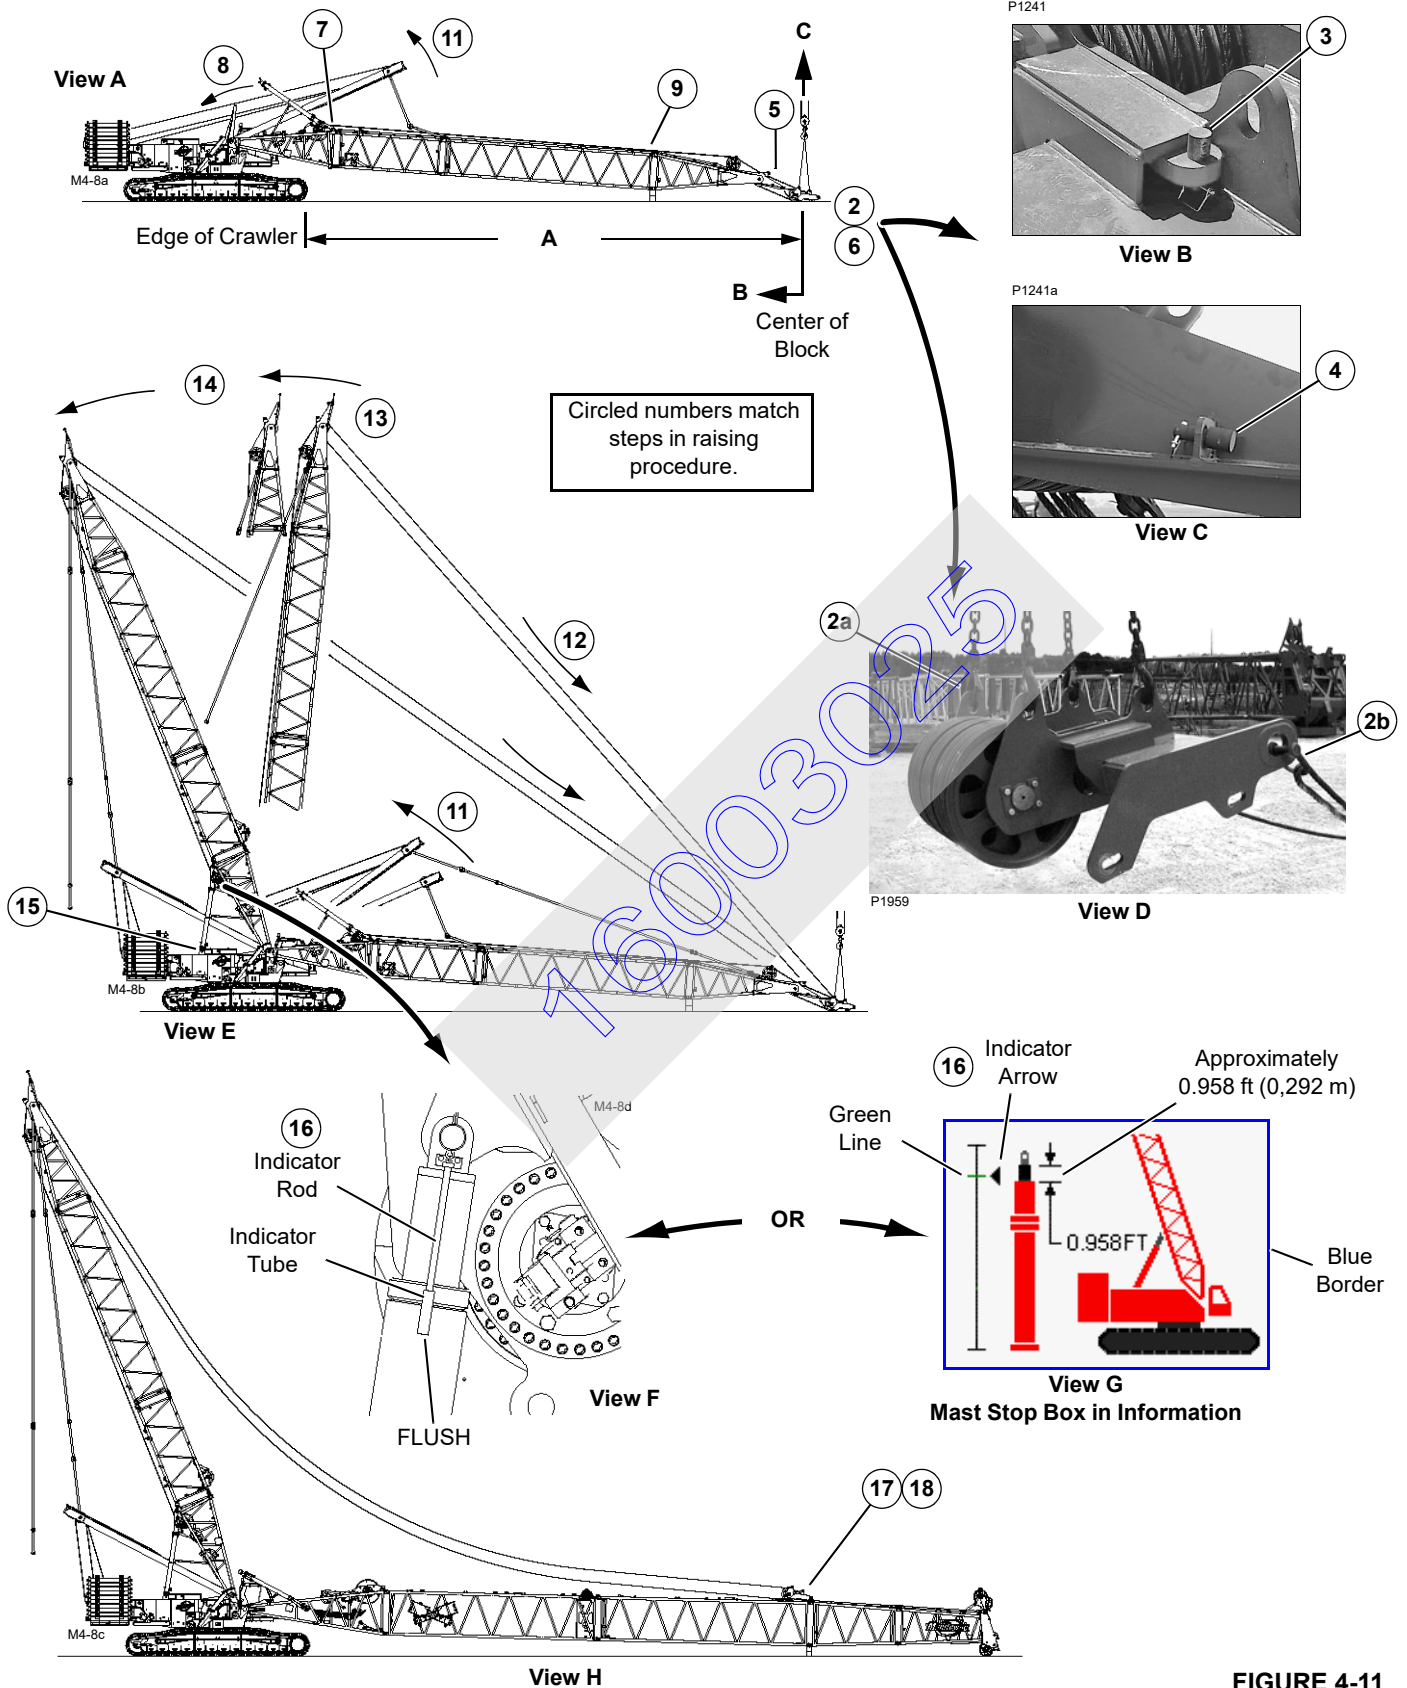

FIGURE 4-11
- If an assist crane is used, it must provide the forces given in Table 4-1. Letters in Figure 4-11, View A correspond to letters in the table.
Circled numbers in Figure 4-11 match the following steps.